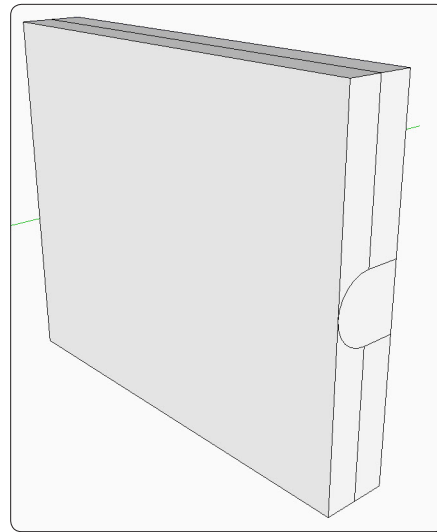

Figure 104. Bisect the plate and clean up the knuckle.
Step 2 Draw lines around the midpoint of the edges to bisect the plate. Use the Eraser Tool to clean up the waste lines for the knuckle shape. You should have a sketch like the one shown in Figure 104.